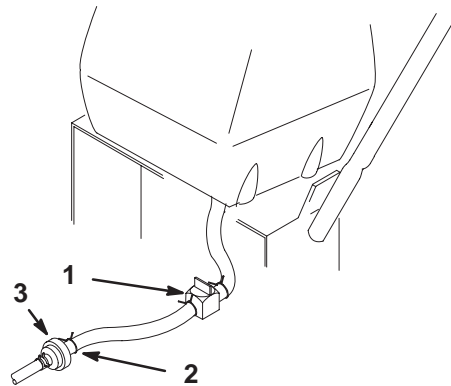

Figure 41
2. Close fuel shut-off valve at fuel tank (Fig. 41).
3. Squeeze the ends of the hose clamp together and slide it up the fuel line away from the fuel filter (Fig. 41).
4. Pull the fuel line off the fuel filter (Fig. 41). Open the fuel shut-off valve and allow gasoline to drain into a gas can or drain pan.
3. Close fuel shut-off valve at fuel tank (Fig. 41).
7. Open fuel shut-off valve at fuel tank (Fig. 41).